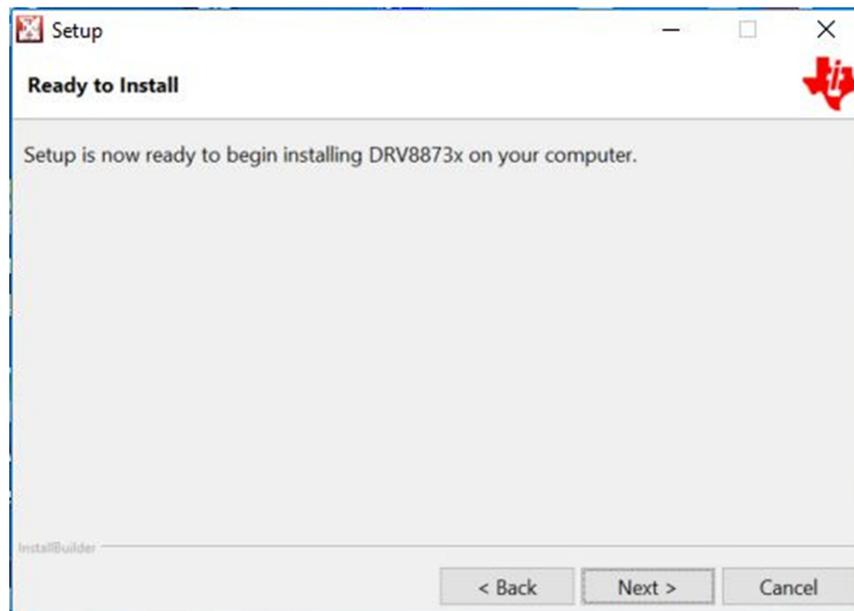

Figure 9. Ready to Install
Step 7. Click the *Next* button in the *Ready to Install* window to begin the installation (see Figure 9).